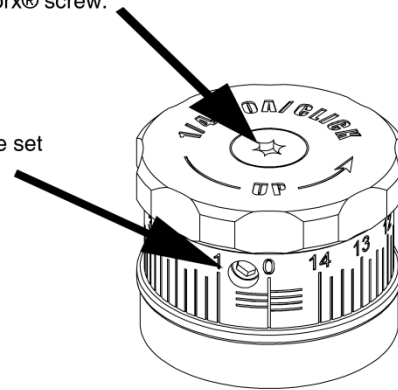

Figure 4-8
- a. Loosen the set screw and flat head screw on the BORS elevation knob until the knob rotates freely on the adapter without moving the actual adjustment post (no clicks). Figure 4-8.